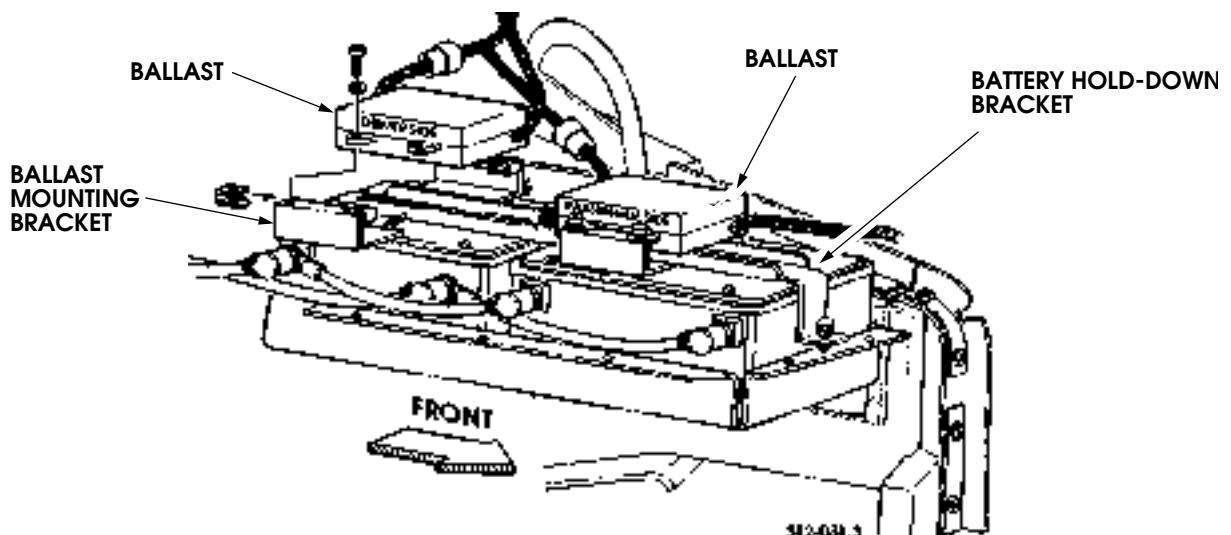

Figure 13-67: Ballast Mounting Point
2. The ballasts mount above the vehicle’s batteries. Loosen the battery hold-down hardware, and slide two ballast mounting brackets between the batteries and the battery hold-down on the inboard side and two on the outboard side (Figure 13-67). The ballast marked “*passenger*” mounts forward of, and close to, the center battery hold-down stud with the long wire lead toward the front of the vehicle. This mounting position is important to maintain good hood-to-ballast clearance. Secure the ballasts to the brackets with the screws and washers provided. Tighten the battery hold-down hardware.